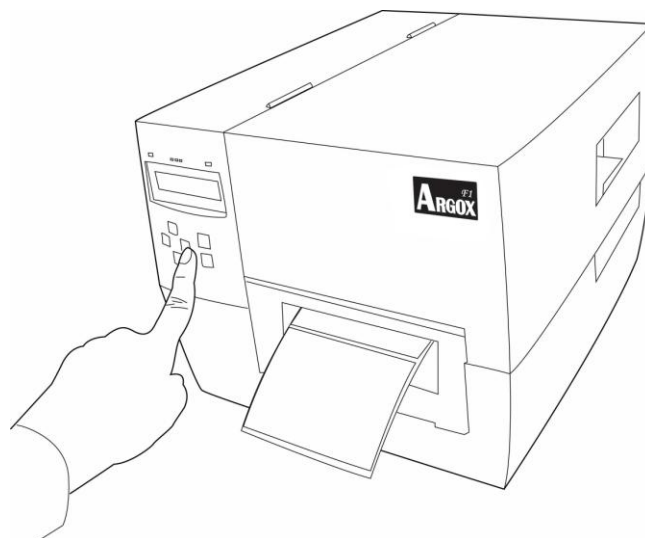

Figure 14
8. Close the top cover and press the FEED button if the printer is already on. (Figure 14)